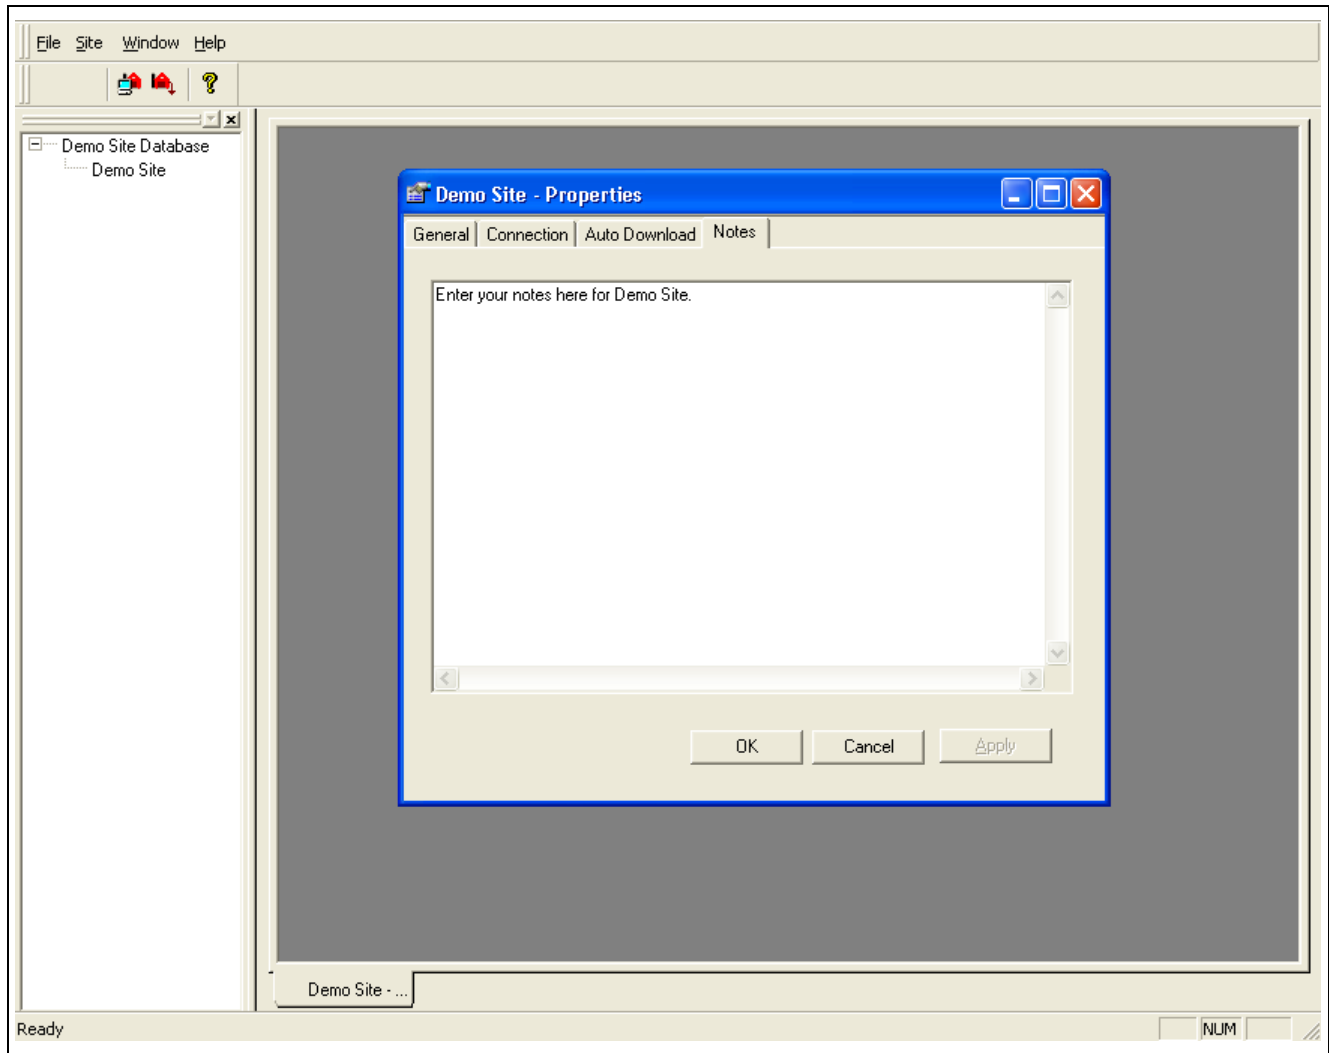

Figure 11C *Adding Additional Information into Notes Tab*
6. To fill in the properties for that group or site, select the desired item on the left portion of the screen and then either right click and view properties or select the view properties icon. The general and notes tabs are the same for a group or site. They are meant as an information database if that site needed to be contacted by phone or some other means other than Feed-Link for assistance. Select the notes folder to add comments on the site or group. The general and notes tabs are not used by Feed-Link in the generation or content of its faxes. (See Figure 11C.)